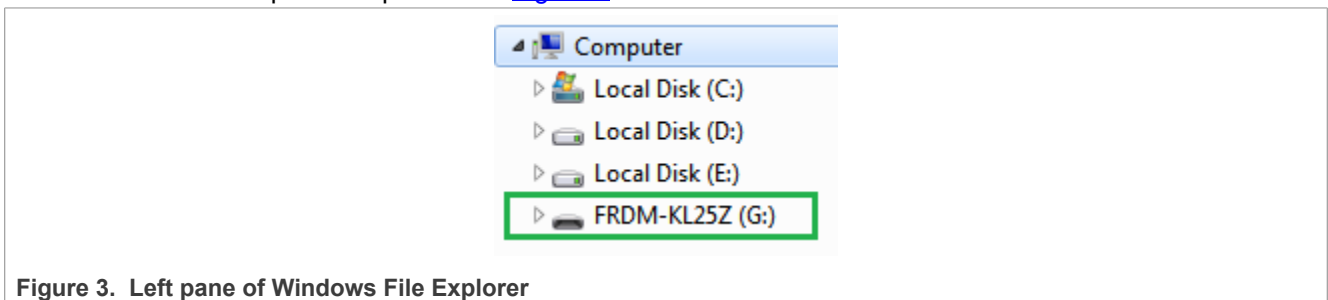

Figure 3. Left pane of Windows File Explorer
- This time without pressing the RST button, the FRDM_KL25Z device should appear on the left pane of the Windows File Explorer as pictured in Figure 3.